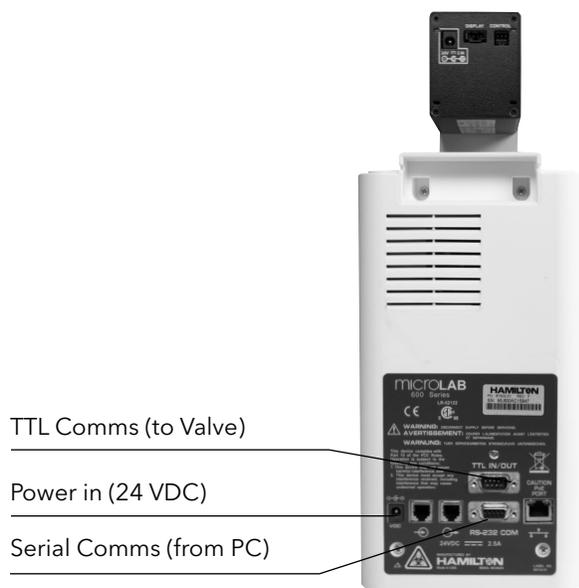

Figure 6.2 Dilutor Module - Back View
2. Make the Power and Serial connections to the modules: (refer to Figures 6.2, 6.4 and 6.6)